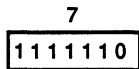

**Figure 16-7. PC Relative Effective Address**
**EA Calculation:** The contents of the sign-extended displacement are added to the PC. Sd specifies the displacement size as in the register indirect mode. See Figure 16-7.